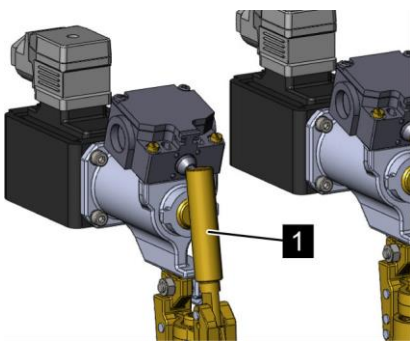

Fig. 158: Throwing over the valve lever
5. ➤ Throw over the valve lever (Fig. 158/1) of a valve on the pilot distributor.